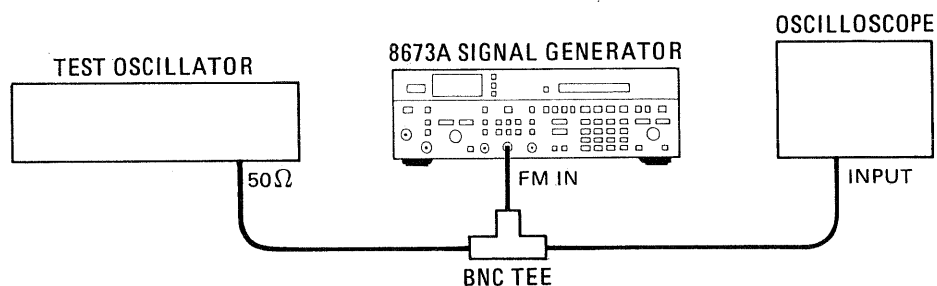

Figure 3-9. FM Functional Check Setup
30. Set the test oscillator to 10 MHz at an output level of 0V. Then, connect test oscillator and oscilloscope to the Signal Generator as shown in Figure 3-9.